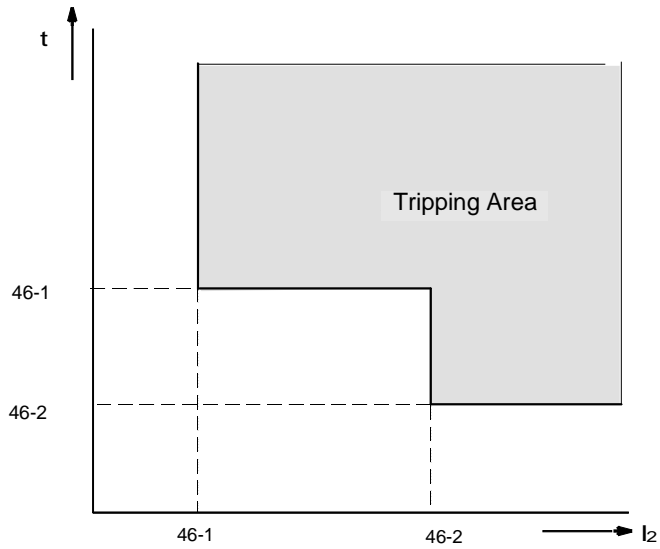
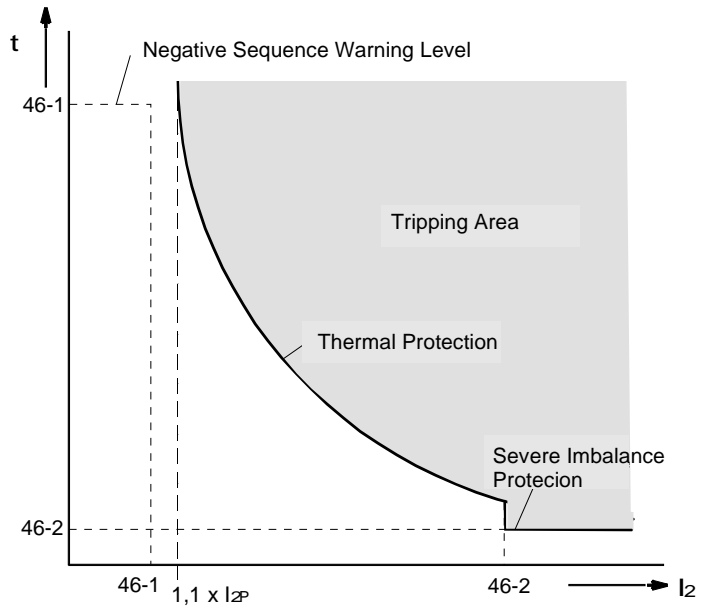

Figure 6-41 Definite Time Characteristic for Negative Sequence Protection
Figure 6-42 Inverse Time Characteristic for Negative Sequence Protection
The negative sequence protection feature of the 7SJ63 relay uses filtering to dissect the phase currents into their symmetrical components. If the negative sequence component of the phase currents is at least 10% of the nominal device current, and all phase currents are less than four (4) times the nominal device current, then the negative sequence current is fed into three time-overcurrent relay elements, two of which are definite time (see Figure 6-41) and one of which contains an inverse time characteristic (see Figure 6-42).
The two definite time elements are designated 46-2 and 46-1. Each of the two definite time elements will generate a message and initiate a time delay when picked up. Once either time delay elapses, a trip signal is initiated. Figure 6-41 illustrates the definite time characteristic when the 46-1 element is set with a more sensitive pickup value while the 46-2 element is set with a shorter tripping delay.
When the negative sequence current exceeds the pickup setting of the 46-TOC element by 110%, the element picks up, generates a message, and initiates time delayed tripping based on the selected characteristic curve. Once the corresponding time interval on the curve elapses, a tripping signal is initiated. The characteristic curve is illustrated in Figure 6-42.
If disk emulation is selected, the drop out begins when the current decreases to 90 % of the pickup value, and reset proceeds in accordance with the selected reset curve. When the negative sequence current is between 90 % and 95 % of the pickup setting, neither forward nor reverse movement of the disk is simulated. When the negative sequence current falls below 5 % of the pickup value, disk emulation is terminated and immediate reset takes place. Figure 6-42 illustrates the overall tripping characteristic.